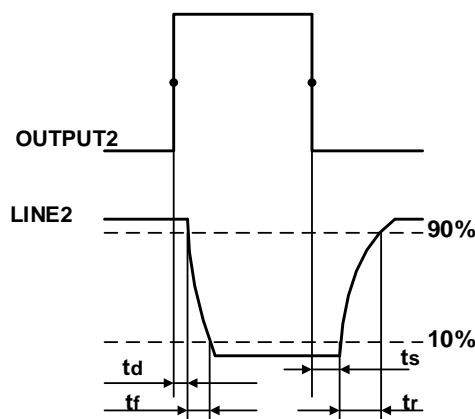

Figure 7-11 Parameter of Line2 output circuit
- Rising time delay = t_d+t_f : $<20\mu s$ (0°C~45°C) (parameter description as shown in Figure 7-11)
- Falling time delay = t_s+t_r : $<20\mu s$ (0°C~45°C) (parameter description as shown in Figure 7-11)